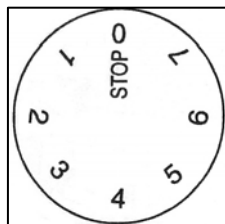

Figure 3
In the **STOP (0)** position, the refrigerator does not operate (the cooling system is de-energized), yet the power supply is not interrupted (the light on the refrigerator interior is on when the door is opened) (see Figure 3).